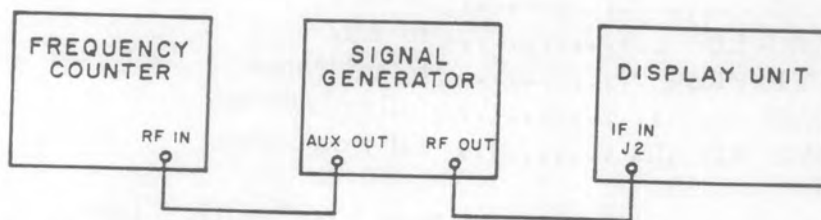

Figure 4-9. Test Setup, Sweep Oscillator and Frequency Linearity Adjustments
- (1) Connect the equipment as shown in Figure 4-9, and set the signal generator output to a low level until a marker is required.
- (2) Set the signal monitor front panel controls as follows: